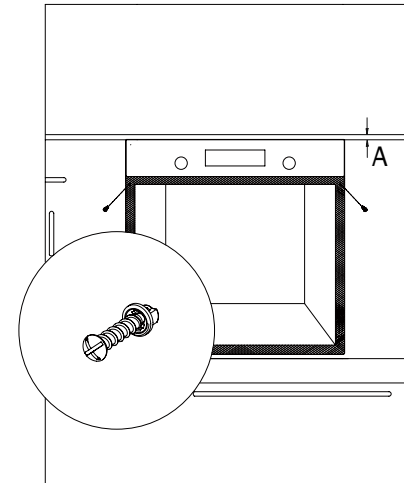

Figure 3
- After installing, there should be a space between lower and upper part of the counter is indicated in figure 3 with "A". It's for ventilation and should not be covered.